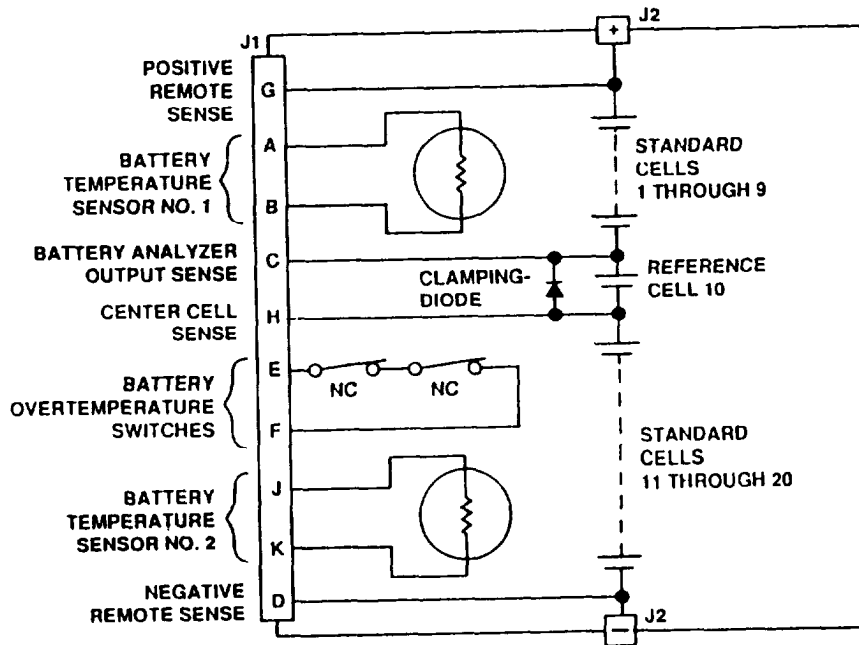

Figure 3-5. Battery BB-776/A Wiring Harness, Wiring Diagram.
9. AIRCRAFT BATTERY FAULT INDICATOR LIGHTS (BB-716/A) (fig. 3-5).
9. AIRCRAFT BATTERY FAULT INDICATOR LIGHTS (BB-716/A) (fig. 3-5) (cont).